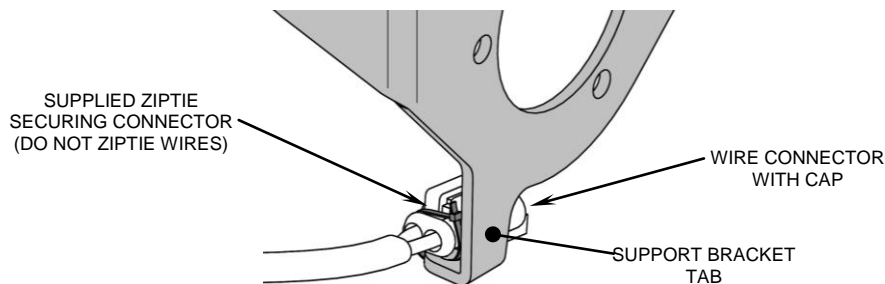

FIGURE 2
7. Align all the components with the throttle body and start threading the (3) buttonhead bolts into the throttle body. Snug the bolts but do not tighten at this time.
8. Place the supplied small o-rings onto both supplied breather bolts. Insert the breather bolts through the support bracket openings and into the cylinder heads and lightly snug. See **FIGURE 2**.
9. Now snug the (3) buttonhead bolts evenly, and then fully tighten them to the throttle body. Tighten the (2) breather bolts.
11. **For 2012 Dyna models:** Use the supplied ziptie to secure the wire connector/cap to the support bracket tab. See **FIGURE 2**. *NOTE: Secure ziptie around the connector, DO NOT ziptie around wires.*